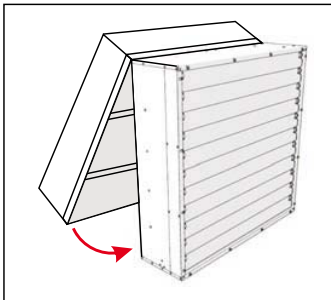

Fig.5
- Take the rubber cable grommet located in the bag with the Operating Instructions Manual and manually place it into the opening located on the side, as indicated in **Figure 5**.